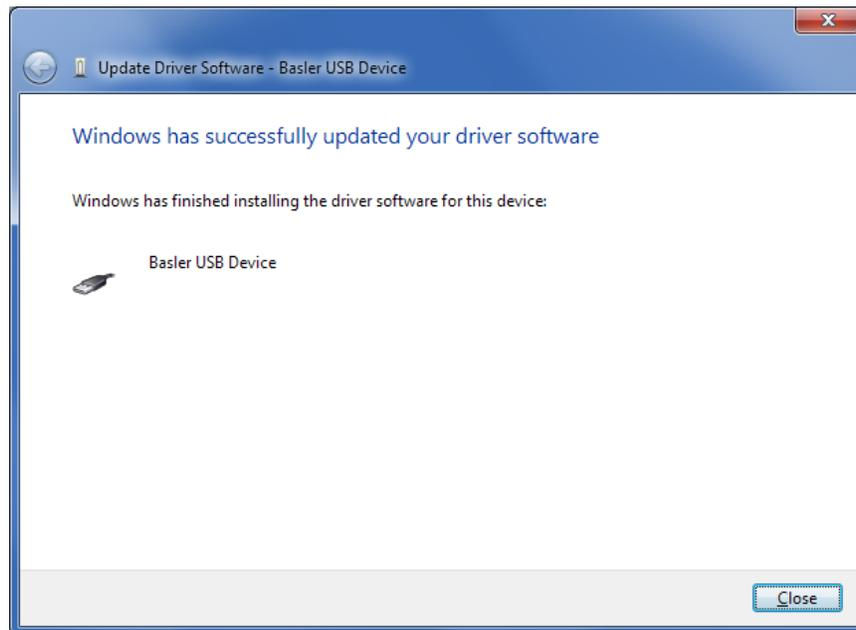

Figure 24-7. Driver Software Update Successful
Step 7. The window in Figure 24-7 appears if driver installation was successful.